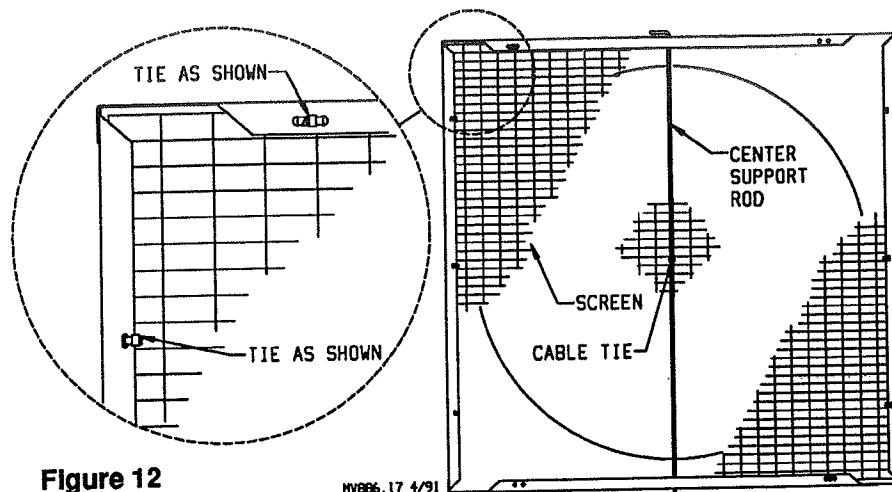

Figure 12
- 30. Insert the 51" x 52" screen through the front flange slot. With screen positioned to the inside of flanges, secure in place with one cable tie at each of the ten flange hole locations (see Figure 12). Screen should be oriented as shown.
- ☆ 31. Insert the rod center screen support through the 3/8" diameter holes located in the top and bottom Slant Wall panels. Fasten screen to center support rod with one cable tie at the rod's mid-section (see Figure 12). Secure loosely to allow removal of rod.